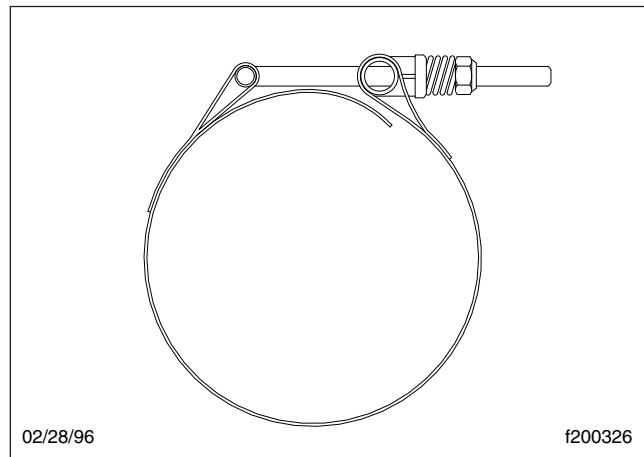
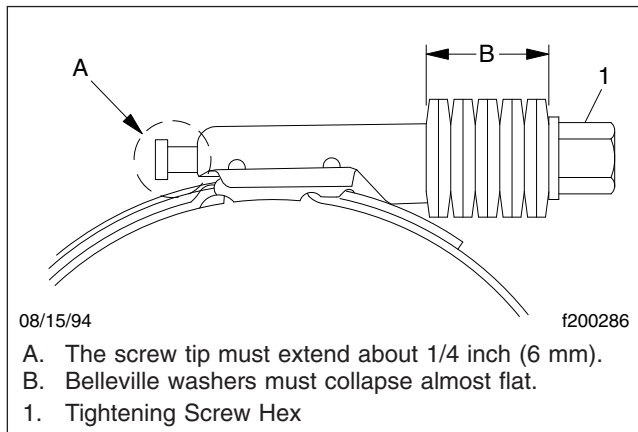

Fig. 3, T-Bolt Type Hose Clamp
Fig. 4, Breeze Constant-Torque Hose Clamp Installation
- Connect the hoses. Your hose clamps can be either T-bolt clamps (see Fig. 3) or Breeze Constant-Torque clamps (see Fig. 4).